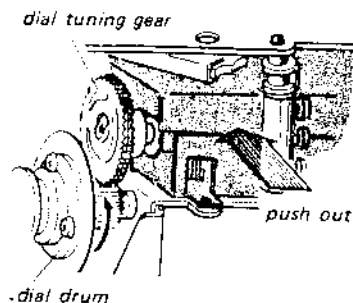

Fig. 2-16
5. While turning the dial drum in the direction shown by the arrow, push out the fm tuner block in the direction shown by the arrow in Fig. 2-16.